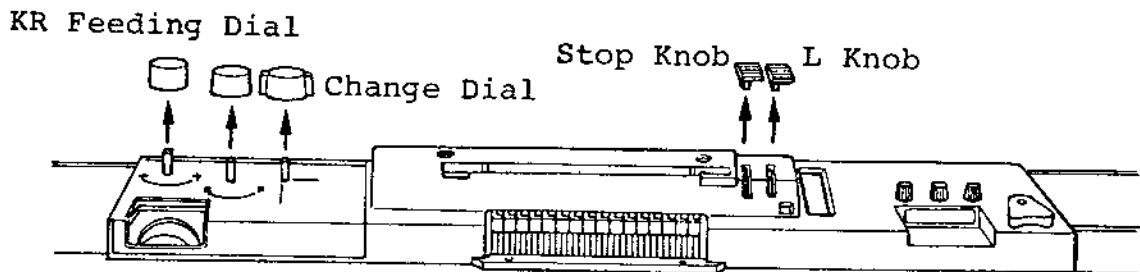

Fig. 22
3. Dismantle the KR Feeding Dial Unit, Change Dial, Stop Knob and L Knob from the Centre Panel, as illustrated in Fig. 22.